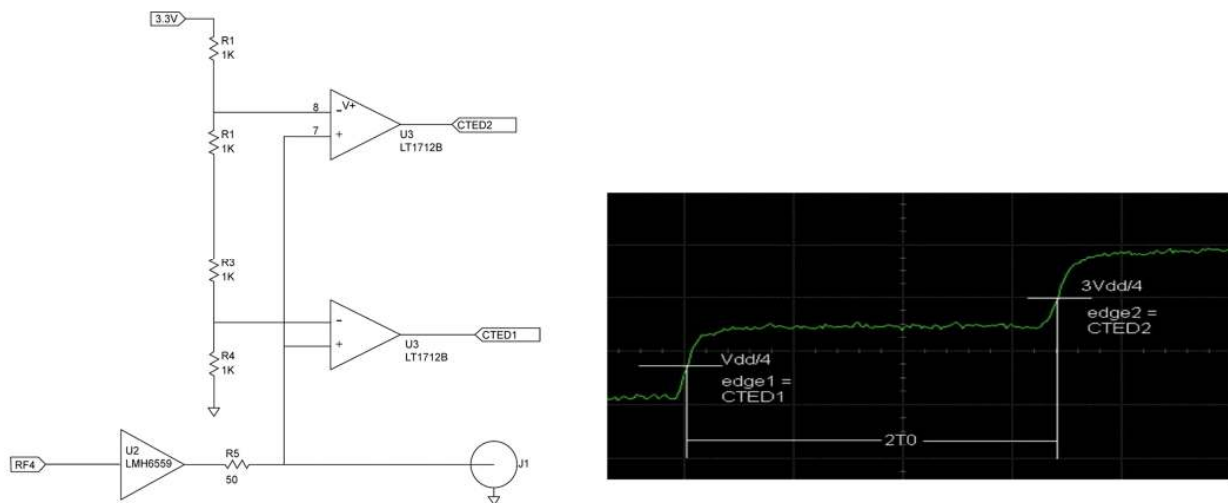
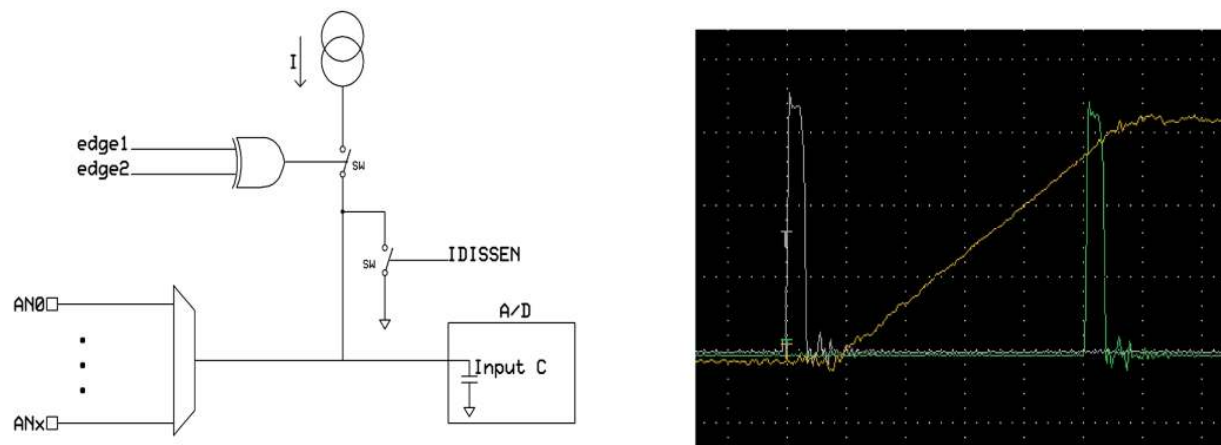

Figure 1: (Left) simplified TDR schematic ; (right) resulting waveform.
Figure 2: (Left) Simplified CTMU block diagram; (right) typical CTMU waveform.
Time domain reflectometry (TDR) is a measurement of the impedance of a transmission line using the reflected energy of a pulse sent down that transmission line. As a pulse is sent down a transmission line, it travels at the speed of light for the media it is in (typically, 60% to 80% of the speed of light in free space). As the pulse arrives at an impedance mismatch, mismatch energy is reflected back to the pulse source and arrives at a time that is two times the electrical distance from the pulse source to the impedance mismatch. **Figure 1** shows the typical waveform at the pulse source of an un-terminated transmission line.
A simplified CTMU block diagram is shown in **figure 2** and consists of the following:
**Figure 2** shows a typical waveform generated by the CTMU. The first pulse closes the switch, starts the charging of the analogue-to-digital input capacitor and creates a linear voltage ramp (**figure 1**). The second pulse opens the switch and stops charging the analogue-to-digital input capacitor. The voltage can now be measured and the time calculated using equation 2.
**Figure 1** shows a simplified schematic of the TDR circuitry and the TDR waveform. Not shown is a 16bit microcontroller with the CTMU peripheral on-chip, in this case a PIC24FJ32GA102. The microcontroller provides a pulse that goes to a high-speed buffer, which drives a 50 ohm coax through a 50 ohm resistor. This results in the waveform shown in **figure 1**. The resulting waveform is fed to a set of dual high-speed comparators with respective trip points of 1/4VPULSE and 3/4 VPULSE, where VPULSE is the amplitude of the pulse generated by the microprocessor and output to RF4. The comparator provides the edges CTED1 and CTED2 needed to measure time, as shown in **figure 2**. CTED1 provides the start edge and CTED2 provides the stop edge. The resulting voltage is measured by the ADC and represents the time between EDGE1 and EDGE2, or 2 times the electrical length of the 50 ohm coax. The CTMU peripheral's resolution is less than 1 ns, resulting in an overall resolution of less than 0.5 ft. With a 10bit ADC, the max length is 500 ft.